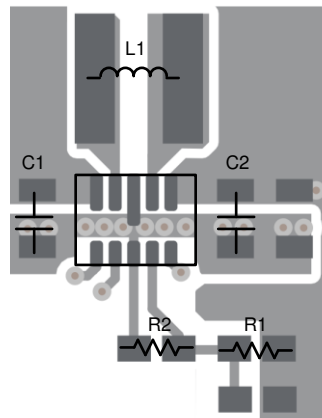

图 44. TPS63802 Layout
2. Separate AGND and PGND. Do not connect AGND and PGND directly at the IC. See 图 44 as an example.